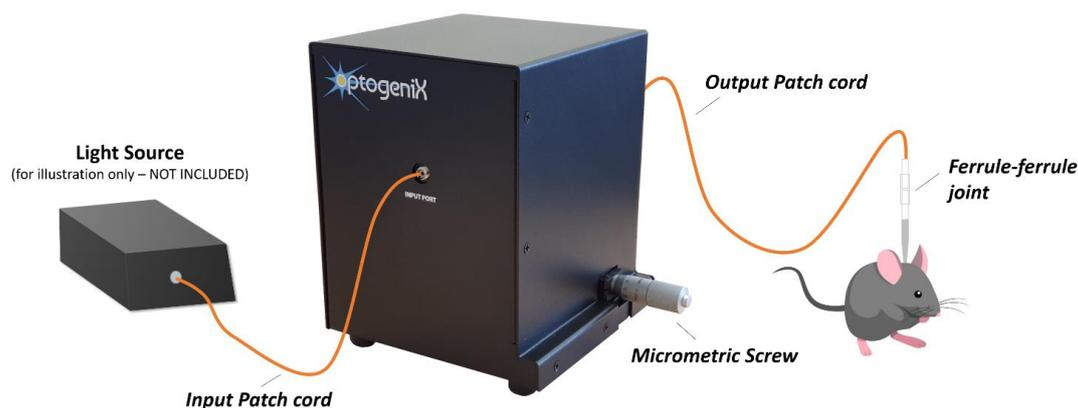

Figure 3 Connection scheme
The full set up for site-selective light delivery with ThetaStation and a generic light source is shown in **Figure 3**.
- 2) Connect all the setup components as in **Figure 3** of **Chapter 4**.